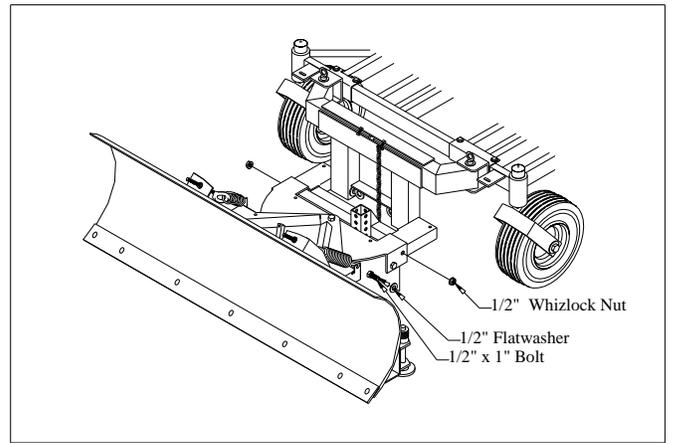

Fig. 8
8. Secure pivot assembly to carrier frame (3) with 1/2" x 1" bolt (fed from inside to out), 1/2" flatwasher and 1/2" whizlock nut. Repeat for opposite side. **FIG. 8**